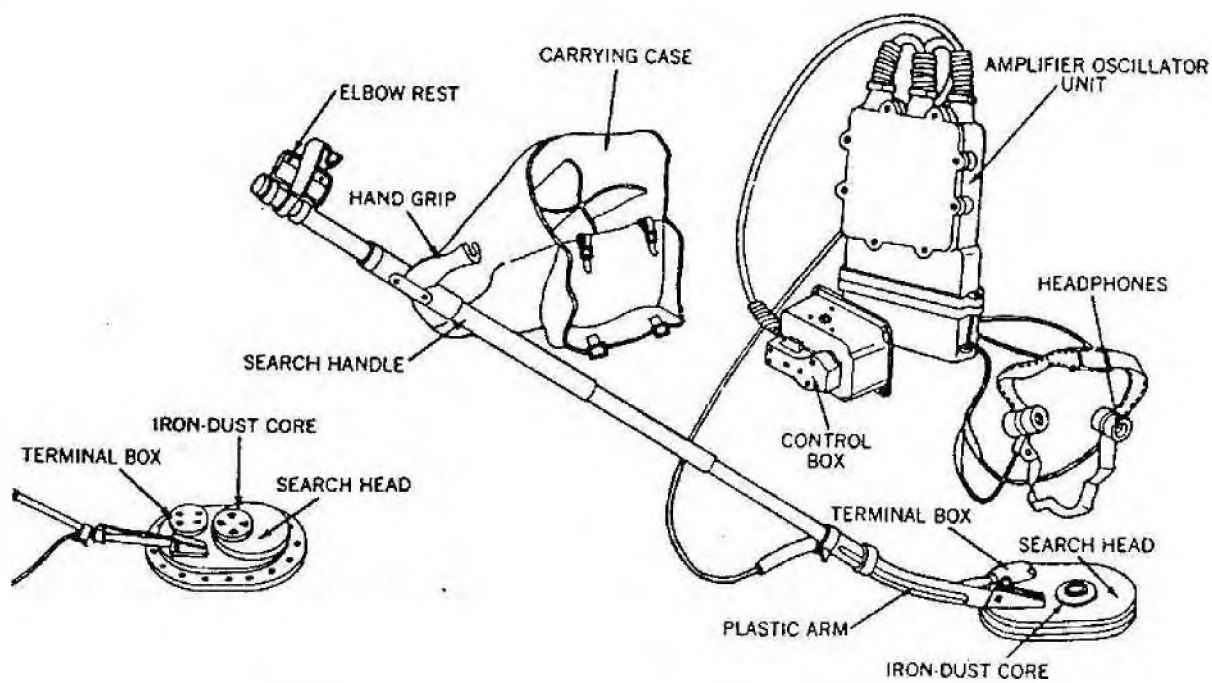

Figure 10-2. Mine detector No. 4A (United Kingdom).
(3) *Mine detector No. 4A (United Kingdom)* (fig. 10-2). This is an improvement on the miniature, waterproofed No. 4 model having changes in the control box and on-and-off switch. It is identical to the NO. 4, however, in other respects. This detector is designed on the regenerative amplifier principle. The advantages of this are that it requires only one control knob, has quick response to oscillation, produces no residual signal in the headphones, has a reduced number of components, and is easy to produce.